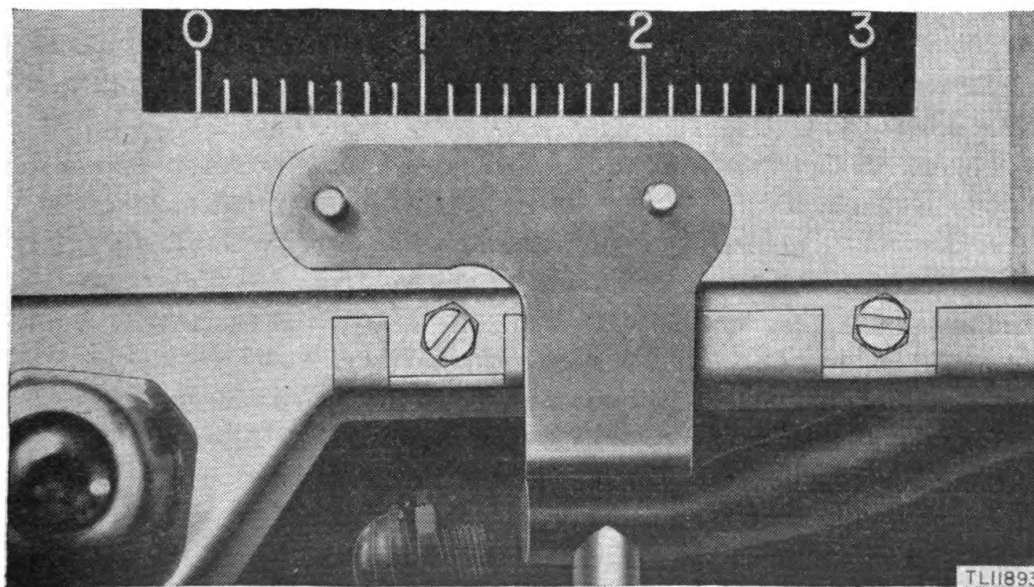

FIGURE 19.1.—Front view of bracket for battery vent tube.
- (1) Examine the rubber vent tube and replace if necessary.
- (2) Make sure the battery vent holes are clear.
- (3) Make sure the battery filler cap is in place.
(4) Always keep the set in a vertical position to prevent spilling of the battery electrolyte.
21.2. (Added.) Securing battery vent tube.—a. Radio Sets SCR-593-A and SCR-593-C have often been damaged because the battery vent tube has become disconnected, allowing acid fumes from the battery to destroy various parts of the sets. To prevent this destruction, a battery vent bracket has been designed to hold the tube in place. (See fig. 19.1). This new part can be ordered through regular channels:
(4) Install the battery vent bracket as shown in figure 19.1, so that the screws for the battery retainer bracket pass through the holes in the vent bracket, and the right angle offset rests on the rubber vent tube.
- (5) Replace battery retainer bracket in its original position.
- (6) Replace and tighten nuts on screws.
- (7) Close case of set.